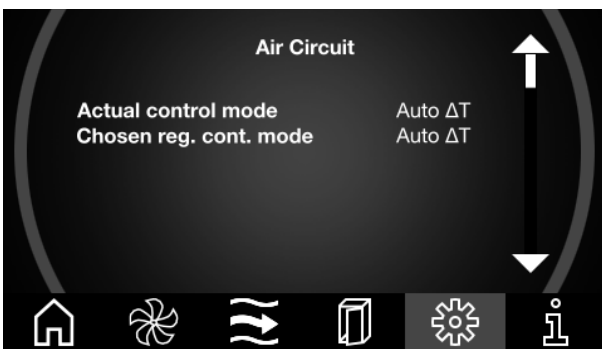

Fig. 113: "Air Circuit" screen pages
- Scroll with the arrow keys from the "Air Circuit" screen page (fig. 113) to the second screen page.